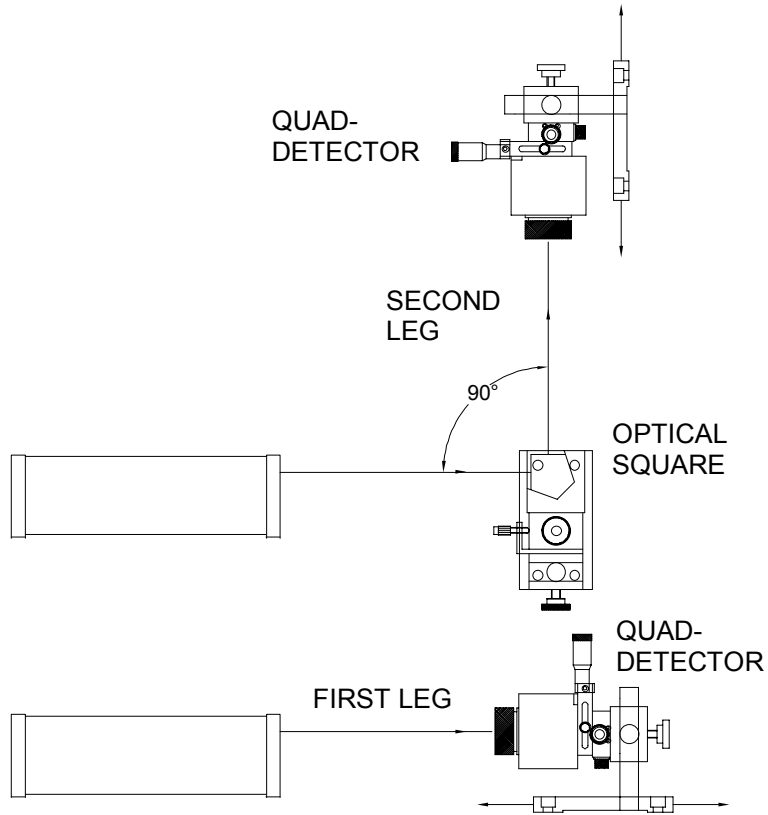

FIG. 10-5 SQUARENESS MEASUREMENT SETUP
5. A squareness measurement consists of two perpendicular straightness measurements made from the same laser beam. Perpendicularity is achieved by using an optical square, as shown in Fig. 10-5. Squareness is calculated by adding or subtracting the slopes for each straightness measurement to a right angle provided by the optical square.
For subsequent legs of squareness or parallelism measurements, first position the optical square with the glass end piece facing the laser head, and the glass side piece facing the direction of the second or other leg, as show in Fig. 10-5 and 10-6. Be sure that the small adjustment screws are in position to rotate the optical square around the axis of the incoming laser beam, so that the outgoing beam can be adjusted across the center of the quad-detector as it is positioned in the second or other leg. The optical square may have these adjustment action is the same regardless of their position.